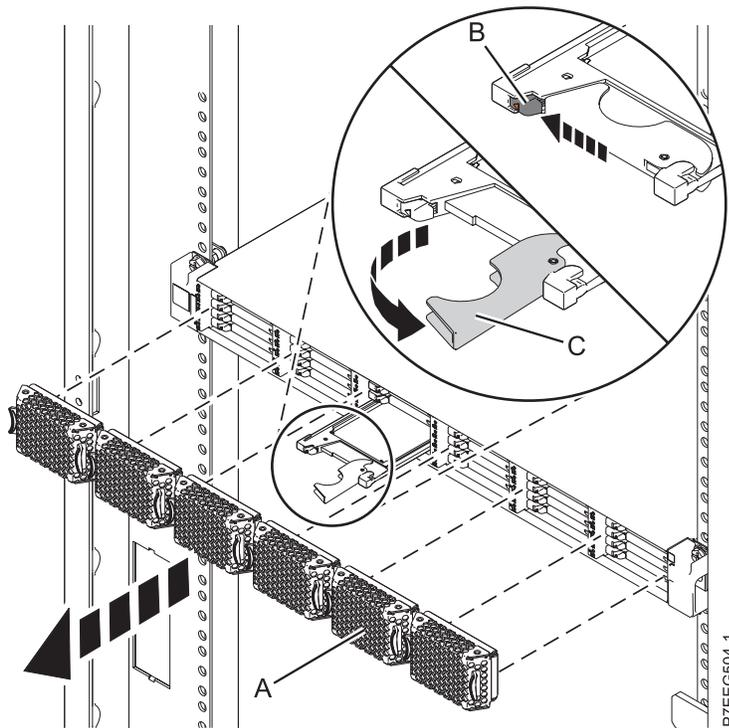

Figure 13. Removing the solid-state drive from the 58/88 PCIe storage enclosure
- Pull off the bezel (A) that covers the slot that contains the solid-state drive.
- When the solid-state drive identify LED turns on solid, slide the release latch (B) over gently to unlock the drive handle. See Figure 13 on page 25.
- Grasp the handle (C) and pull the drive partially out of the slot.